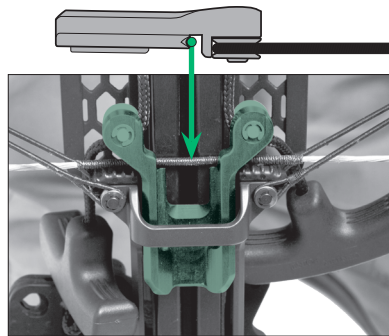

FIGURE 17
3. The CP400 cocking sled has two string grooves that must be fully engaged on the bow string at all times during the cocking process (See Fig. 17). The string grooves on the cocking sled allow the string to be drawn in an even, torque free manner allowing the CP400 crossbow to be smoothly cocked.